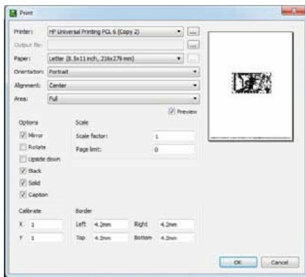

Fig. 2: Print options
2. Select File→Print and select the options shown in Fig. 2.